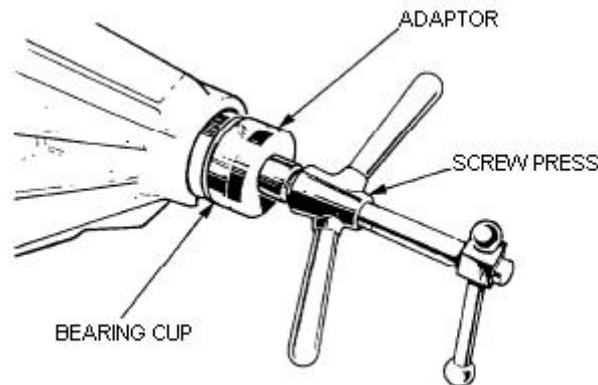

**Figure 216 Measuring Differential Run-out**
- j. Position a dial indicator on the axle casing with the stylus in contact with the rear face of the crown wheel (Figure 216), rotate the differential and check the total run-out. This must not exceed 0.05 mm (0.002 in). If the run-out is excessive, check the crown wheel-to-differential cage mating faces for dirt or signs of damage and, if necessary, select a new position for the stylus to contact until the amount of run-out is below that specified.